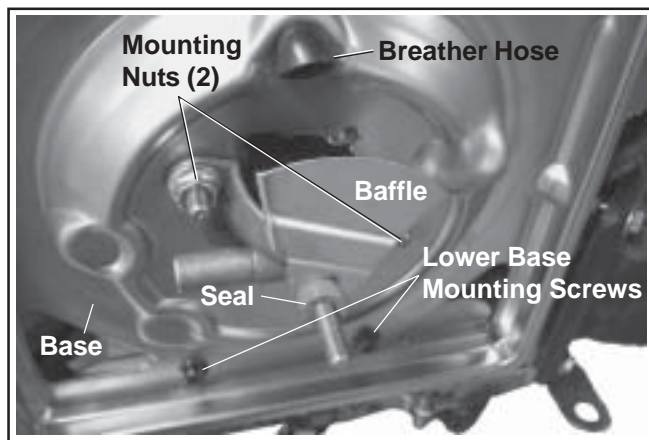

Figure 4-7. Base Plate Removal on Standard Type.
2. Remove the two hex flange nuts securing the bracket, or spitback cup with seal and baffle (if equipped) to base. If a plastic intake manifold is used, remove the two lower base mounting screws. See Figure 4-7.